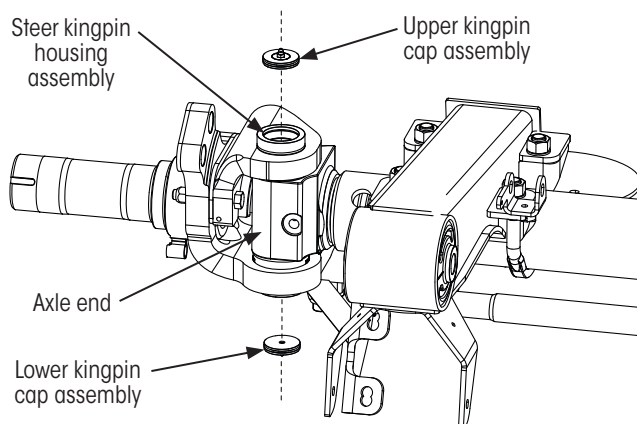

Figure 35: Installing kingpin cap assemblies
2. **Install** upper and lower kingpin cap assemblies (Figure 35) ensuring the O-rings are not damaged during assembly.